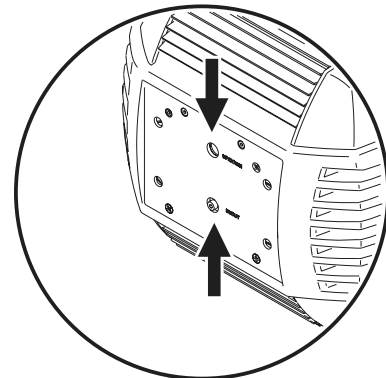

Figure 4: Lamp adjustment screws
- 2 Center the hot spot vertically using the top Allen-head adjustment screw in the center of the rear plate. (See Figure 4.) If there is significant hot spot, turn the bottom adjustment screw counterclockwise until the light is evenly distributed. If the light is brighter around the edge than it is in the center, or if light output is low, turn the bottom adjustment screw clockwise until the light is bright and evenly distributed.